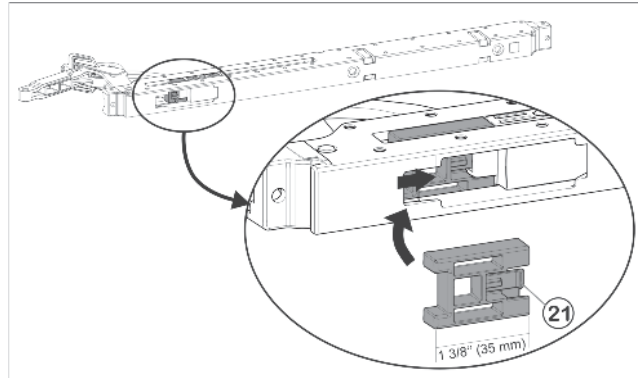

Fig. 55
- ▶ Fit opening limiter (90°) *Fig. 55 (21)* supplied: insert it into the soft stop mechanism from the side and push in until it audibly snaps into place.